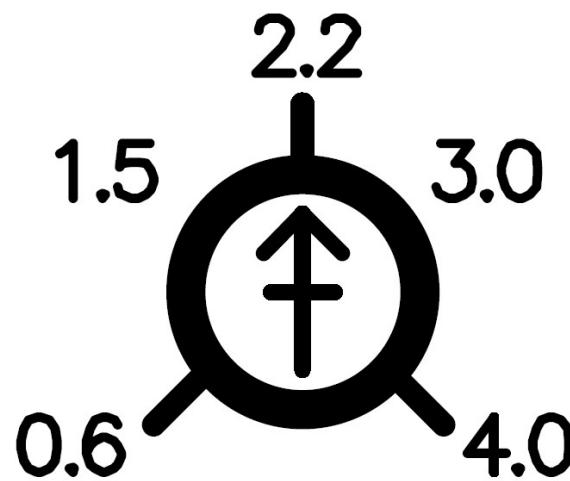

Figure2-2. Position of current
- E) These four blue potentiometer manage XYZA 4axis steppe rmotors' current. Turn clockwise will increase the current, and turn counter-clockwise will decrease the current. Please adjust them according the motors' need. The position of current see as Figure 2-2.